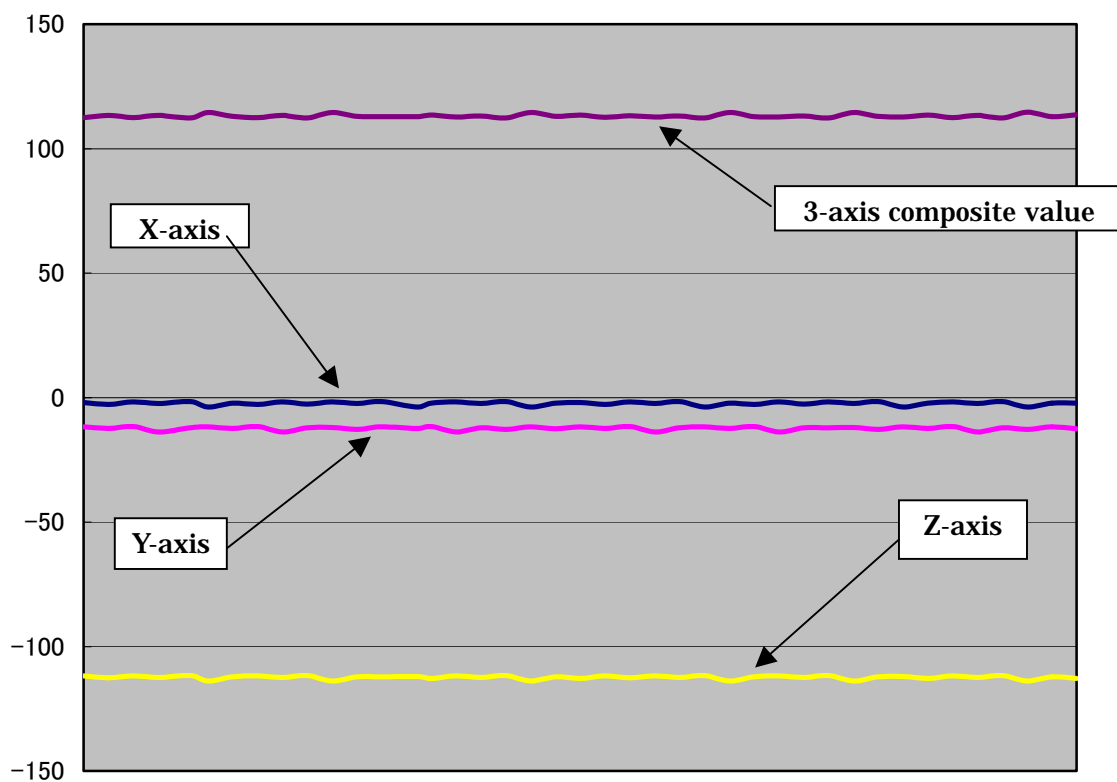

Figure 13 Data graph when sensor being stopped
- Stop (Figure 13 Data graph when sensor being stopped)